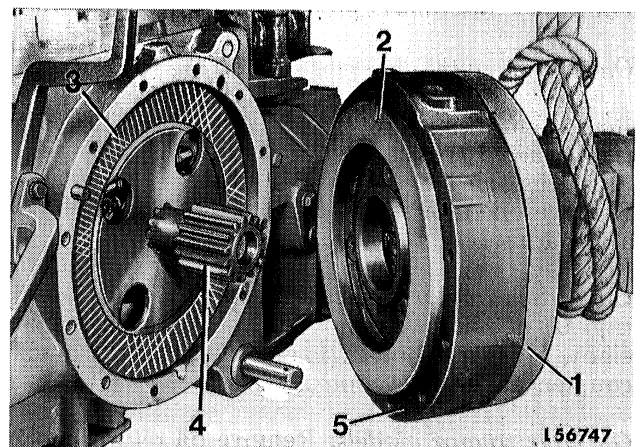

Fig. 8 — Removing Final Drive
Disconnect brake lines on both brake housings 5 (fig. 8).
**CAUTION:** Take care that brake housing 5 (fig. 8) is correctly supported and cannot fall.